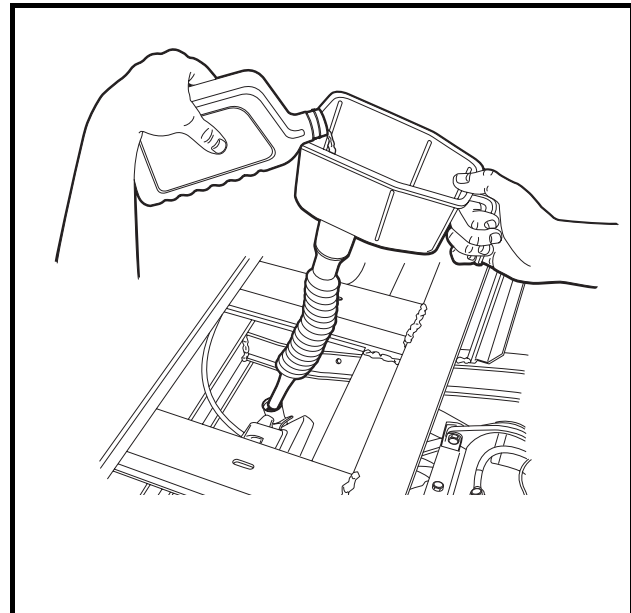

Figure 13-12 Add Engine Oil
- Install oil drain plug in the crankcase and tighten to 20 ft-lb (27.1 N·m). Apply a light film of oil on the seal of a new oil filter and install the filter on the crankcase. Fill the crankcase to the proper level with the correct type of oil (**Figure 13-12, Page 13-10**). See **Periodic Lubrication Schedule, Section 10, Page 10-2**.